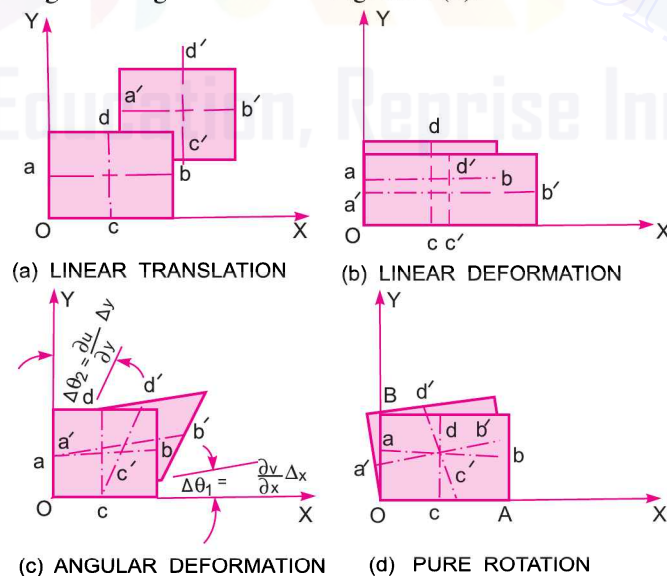

Fig. 5.11. Displacement of a fluid element.
**5.9.1 Linear Translation.** It is defined as the movement of a fluid element in such a way that it moves bodily from one position to another position and the two axes  $ab$  and  $cd$  represented in new positions by  $a'b'$  and  $c'd'$  are parallel as shown in Fig. 5.11 (a).
**5.9.2 Linear Deformation.** It is defined as the deformation of a fluid element in linear direction when the element moves. The axes of the element in the deformed position and un-deformed position are parallel, but their lengths change as shown in Fig. 5.11 (b).
**5.9.3 Angular Deformation or Shear Deformation.** It is defined as the average change in the angle contained by two adjacent sides. Let  $\Delta\theta_1$  and  $\Delta\theta_2$  is the change in angle between two adjacent sides of a fluid element as shown in Fig. 5.11 (c), then angular deformation or shear strain rate
**5.9.4 Rotation.** It is defined as the movement of a fluid element in such a way that both of its axes (horizontal as well as vertical) rotate in the same direction as shown in Fig. 5.11 (d). It is equal